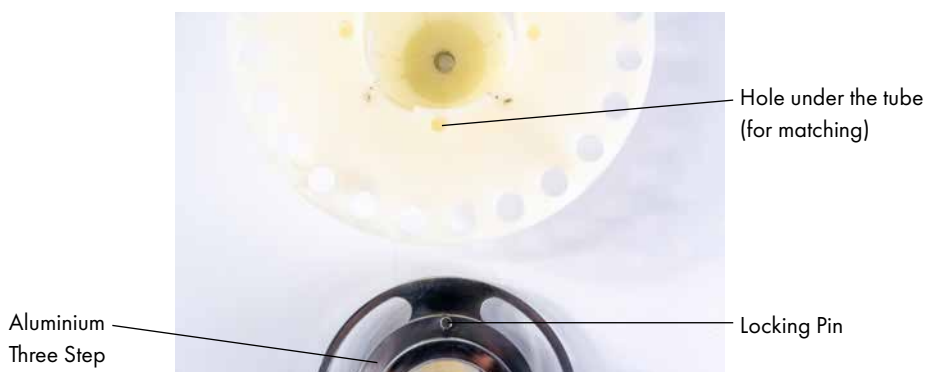

Fig. 6
3. Take out the assembly of Spoke Plate and Tube Holder (Ref. Fig. 6).
6. When all the sample tubes are loaded, place the assembly into the FastPrep-24 instrument. Align the Locking Pin of the Aluminium Three Step with the holes under the Tube Holder, ensuring its proper placement (Ref. Fig. 6).